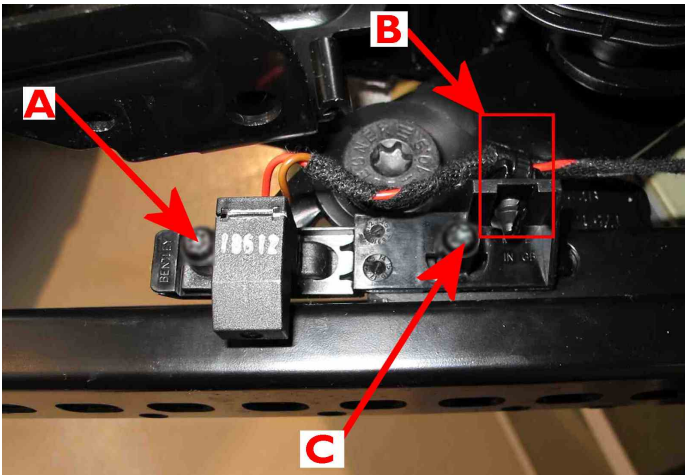

Figure 21
- Referring to Figure 21 (Point A) – secure the sensor to the new bracket using a new screw with the part number N907 321 03